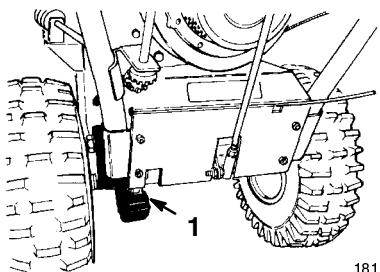

Figure 34
2. Lightly lubricate the drive chain with a chain lubricant (Fig. 34).